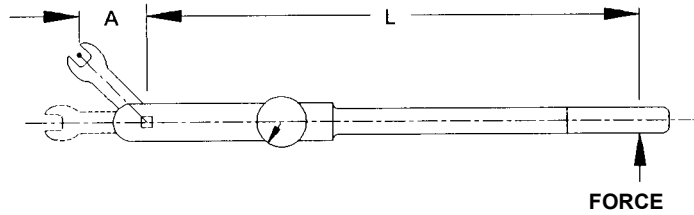

FIGURE 1-14: TORQUE WRENCH WITH ADAPTER AT ANY ANGLE
11. The ratio of actual torque at the fastener with that on the wrench scale is a function of the adapter's length (A) and its position in relation to the torque wrench beam and the location where the force is applied (see Figure 1-14:).